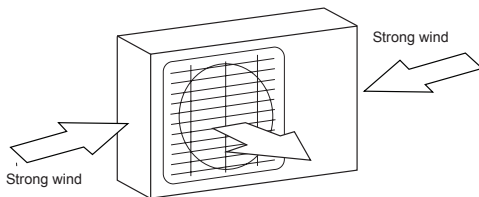

Fig. 5.1
- ✎ If the location is exposed to strong winds (for example: near a seaside), the unit must be placed against the wall to shelter it from the wind. If necessary, use an awning. (See Fig. 5.1 & 5.2)